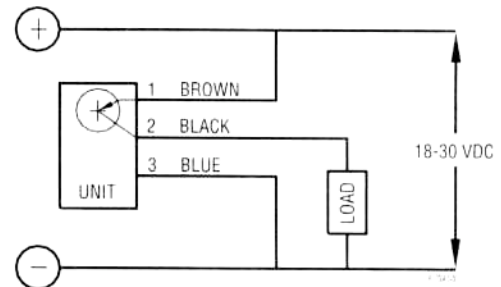

FIGURE 1
- 5) The black wire should be connected to the load and then to negative side of loop. See Figure 1.